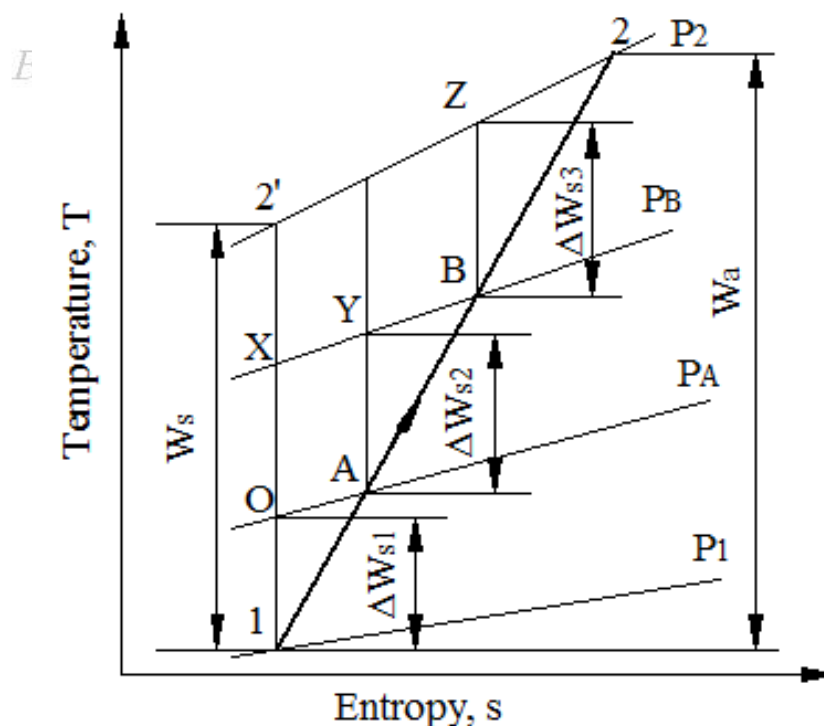

Fig. 2.4 Effect of preheat on compression process
The thermodynamic effect of multistage compression can be studied by considering three stage compressor working between inlet pressure  $p_1$  and the delivery pressure  $p_2$  as shown in the figure 2.4. The intermediate pressures are being  $p_A$  and  $p_B$ . The stage pressure ratio,  $p_r$  and the stage efficiency,  $\eta_{st}$  are assumed to be same for all stages. The process 1-2' and 1-2 are the isentropic and actual compression process respectively.
**Answer:** Consider three stage compressor working between inlet pressure  $p_1$  and the delivery pressure  $p_2$  as shown in the figure 2.4. The intermediate pressures are being  $p_A$  and  $p_B$ . The stage pressure ratio,  $p_r$  and the stage efficiency,  $\eta_{st}$  are assumed to be same for all stages. The process 1-2' and 1-2 are the isentropic and actual compression process respectively.